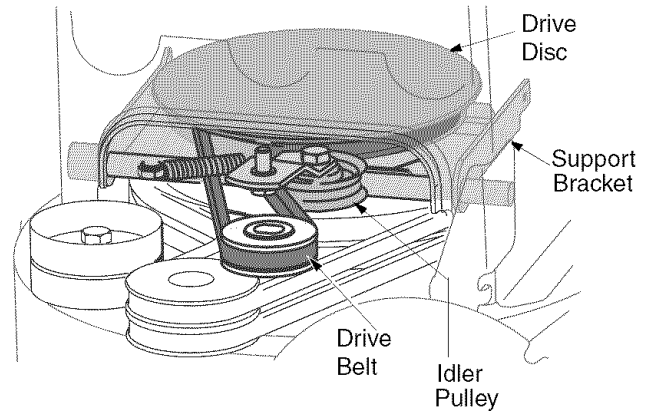

Figure 21
**NOTE:** The support bracket must rest on the stop bolt after the new belt has been assembled. See Figure 21